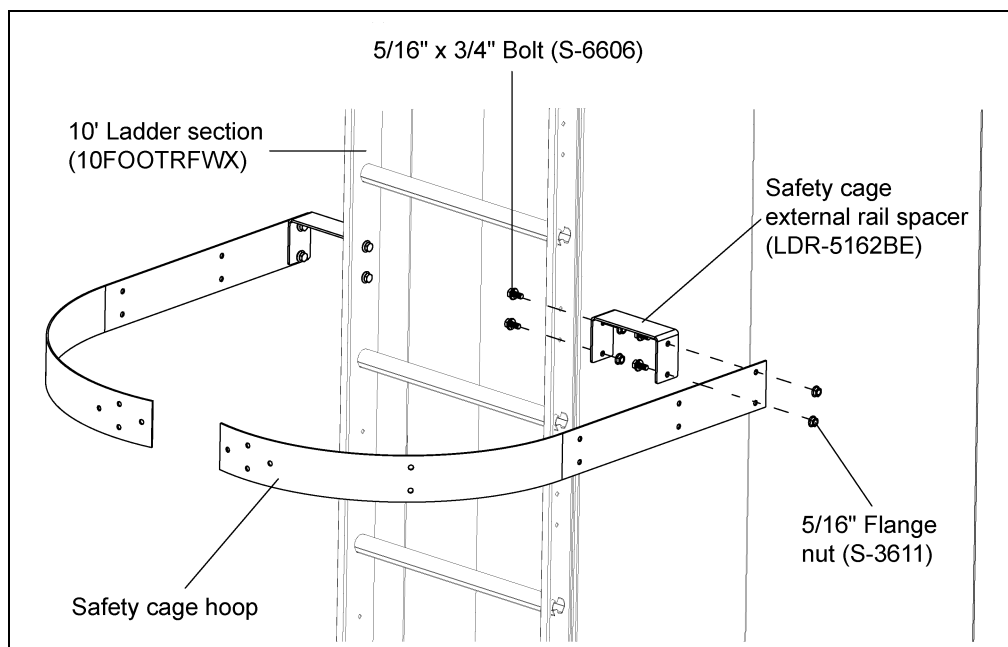

Figure 50
1. Locate external rail spacers along the ladder rails where a safety cage hoop will be installed. This is generally every 4', except where a 2' safety cage section is needed. Install external rail spacers to the ladder rails using 5/16" x 3/4" bolts (S-6606). (See Figure 50.)